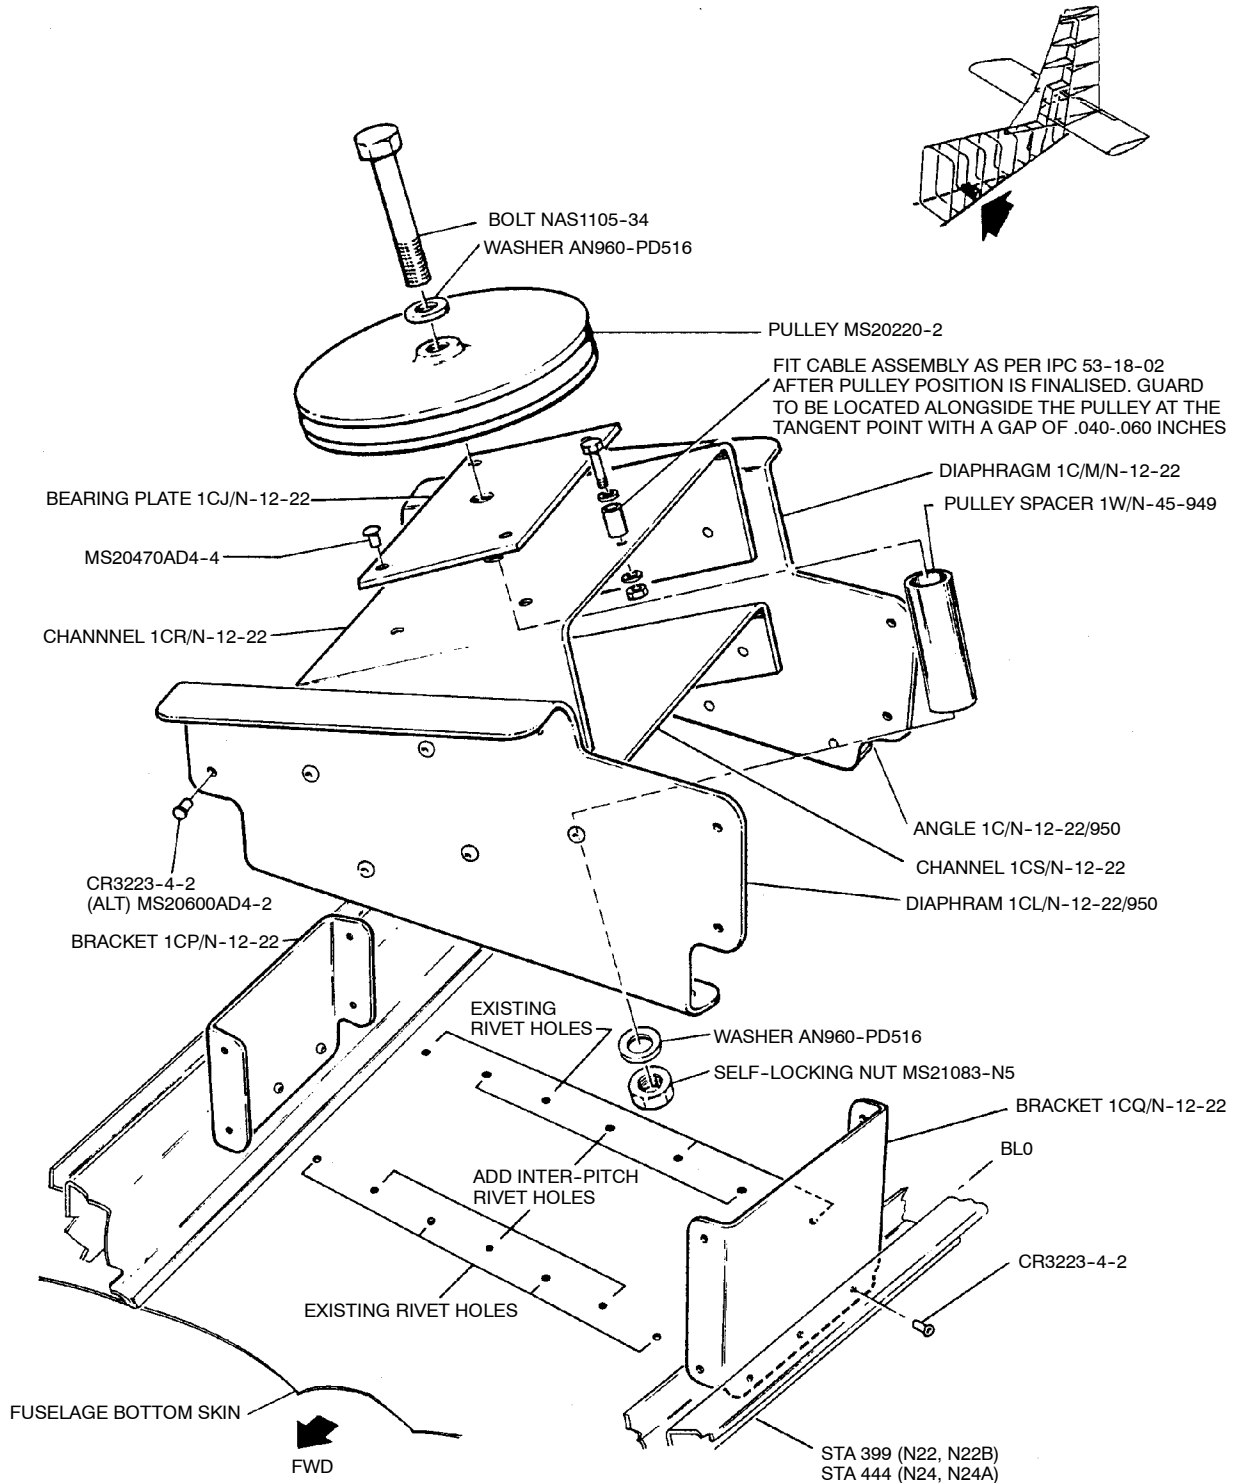
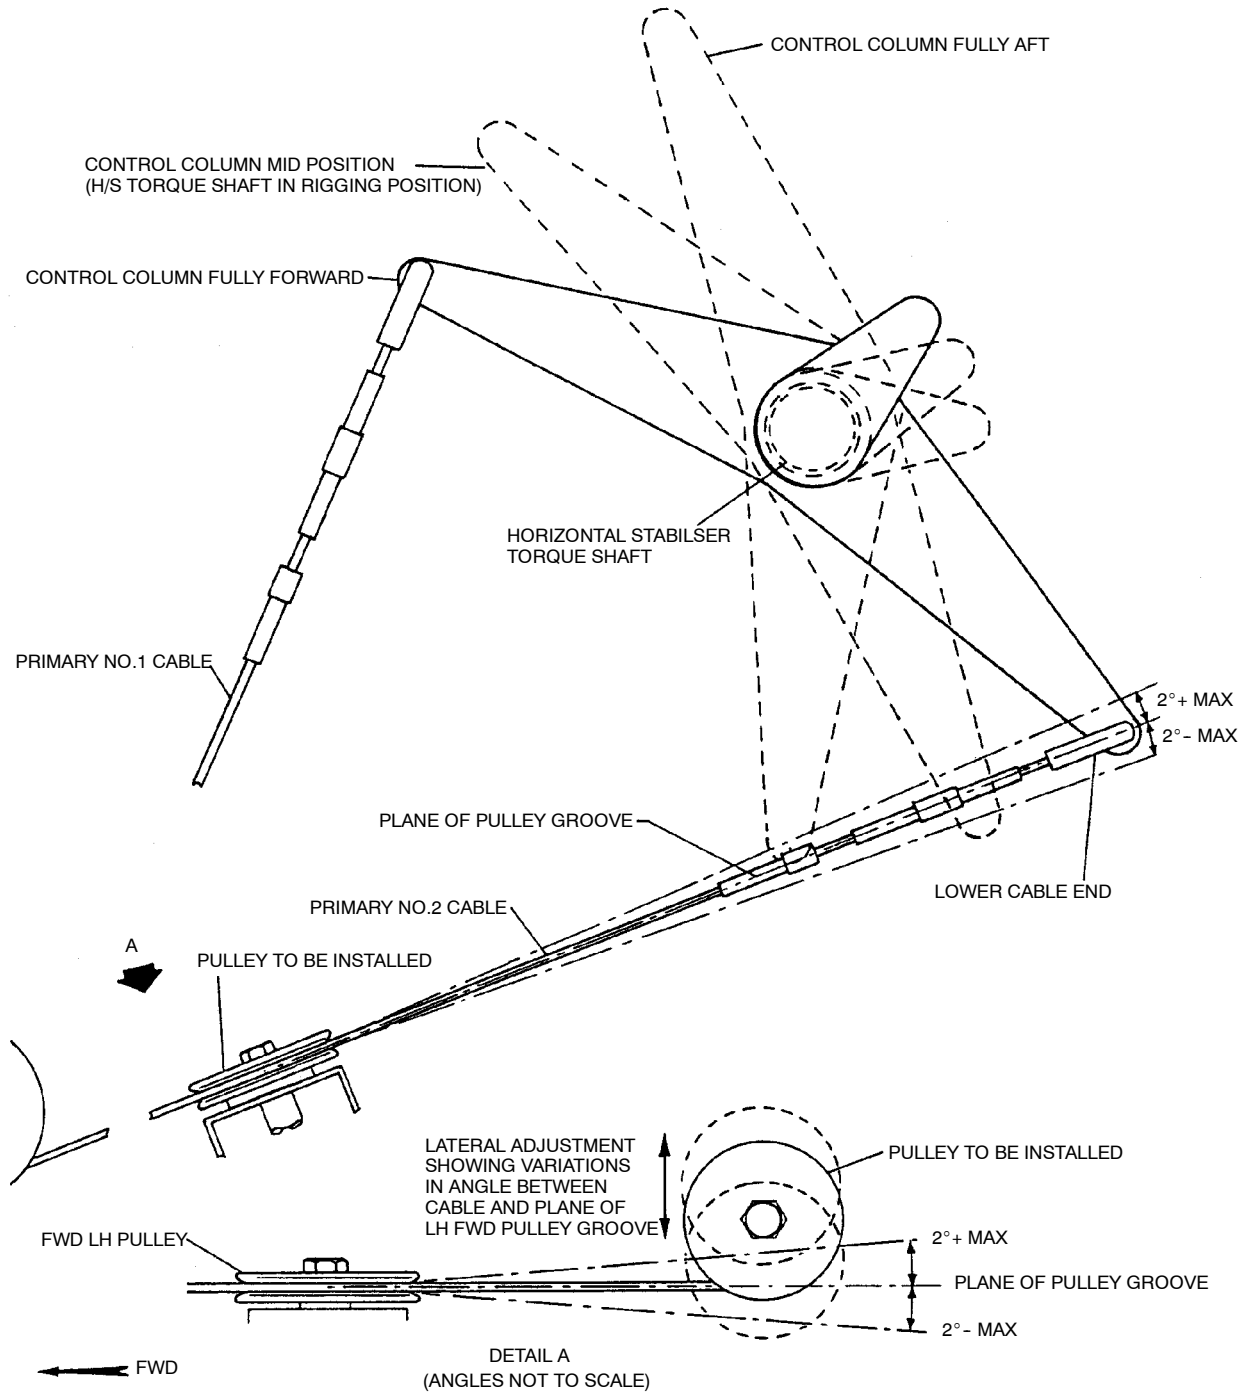

Figure 1 Alignment Tool - Replacement strut pick-up fittings
Figure 2 Alignment Tool - Replacement strut pick-up fittings
- (1) Remove the pulley from its mounting bracket (Ref MM Chap 27-40-03). Retain the pulley, and the attaching washers and self-locking nut (Ref IPC Chap 53-18-02 Figure 1 items 23, 24 and 25). Discard the pulley mounting bolt and spacer (Ref IPC Chap 53-18-02 Figure 1 items 26 and 27).
- (2) Remove and retain the cable guard bolt, washers and self-locking nut (Refer IPC Chap 53-18-02 Figure 1 items 31, 30, 28 and 29 respectively) from the pulley mounting bracket.
- (3) Remove the pulley mounting bracketry from the rear fuselage and remove the bearing plate Part No. 1CJ/N-12-22 (Ref Figure 1) from the bracket.
- (4) Install new pulley mounting bracketry (Ref Figure 1)
- (a) Plug with solid rivets the four rivet holes marked A (Ref Figure 1) in the fuselage bottom skin.
- (5) The optimum position of the pulley to be installed (Ref Figure 2) is that which reduces to a minimum the angle of the control cable (+ 2 degrees Max) to the plane of the pulley's groove and also the angle of the control cable to the plane of the groove of the LH pulley (viewed looking forward) of the two pulleys located forward and adjacent to the newly installed bracketry. To determine the optimum position of the pulley to be installed, carry out the following procedure.
- (6) Having determined the optimum position of the pulley and bearing plate assembly, mark the position of the bearing plate and line drill the pulley attaching bolt hole in both channels (PN 1CR and 1CS/N12-22) using 5/16 in dia drill.
- (7) Rivet the bearing plate PN KJ/N-12-22 to the upper channel PN 1CR/N-12-22. (Ref Figure 1)
- (8) Assemble the pulley and attaching parts to the new mounting bracket as shown in Figure 1.
- (9) Connect the horizontal stabiliser primary No.2 control cable to the torque shaft lower cable end.
- (10) Ensure that the cable is correctly routed around the pulleys then locate and fit the cable guard bolt, washers and self-locking nut (removed at step (2)) as per Figure 1.
- (11) Check the rigging of the horizontal stabiliser, including full and free movement and break-out checks (Refer MM Chap 27-40-00).